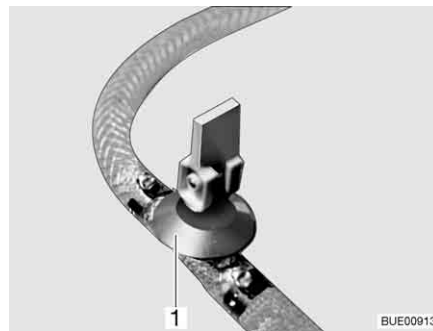

Fig. 129 Drain cock
- Close the drain cock(s). Position the rocking lever (Fig. 129,1) horizontally.
- Open drain cock(s) (Fig. 129). To do so, set the rocking lever (Fig. 129,1) in a vertical position. The boiler is drained to the outside.